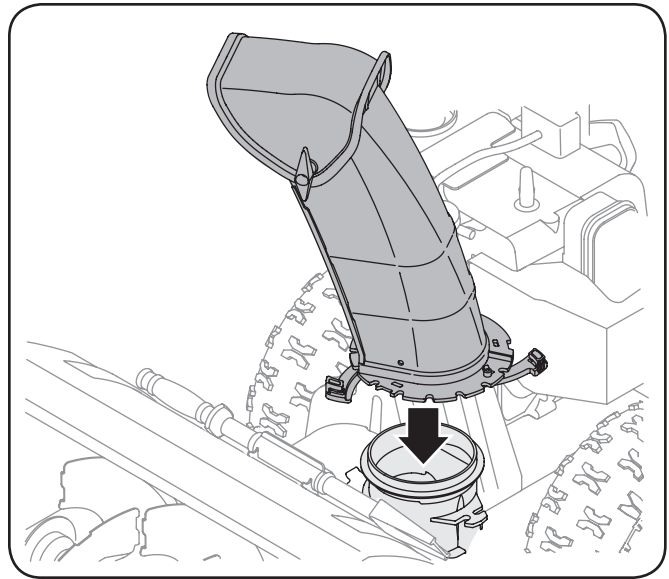

Figure 3-2
1. Position the chute assembly over the base. See Fig. 3-2.